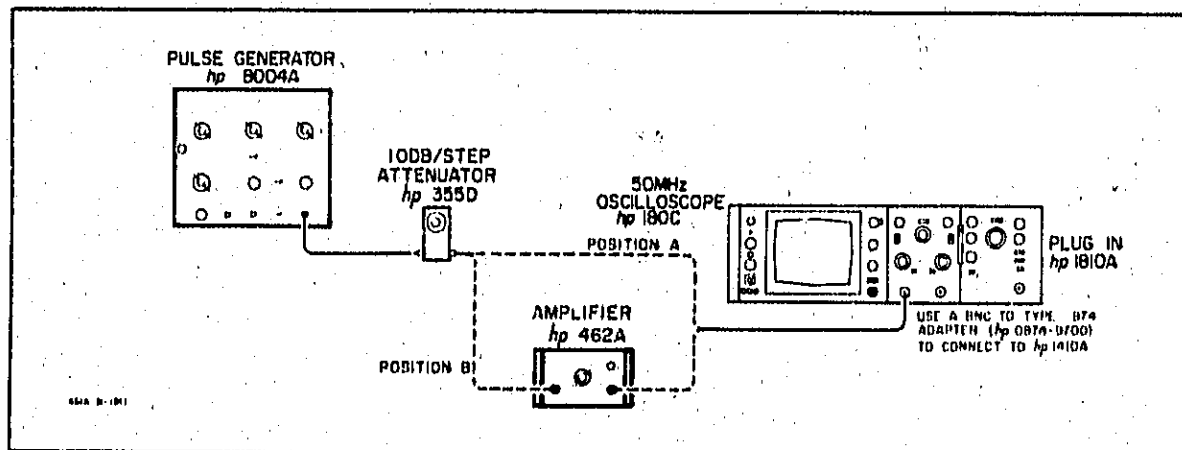

Figure 5-4. Pulse Response Check Setup
a. Connect the 462A as shown in Figure 5-4, position A.
k. Connect the 462A as in Figure 5-4, position B. Increase the attenuator to 60 dB and set the 462A GAIN (DB) control to 40 dB. Reverse the polarity of the input pulse to eliminate readjustment of the oscilloscope.
- a. Connect the Model 462A as shown in Figure 5-4, position A.